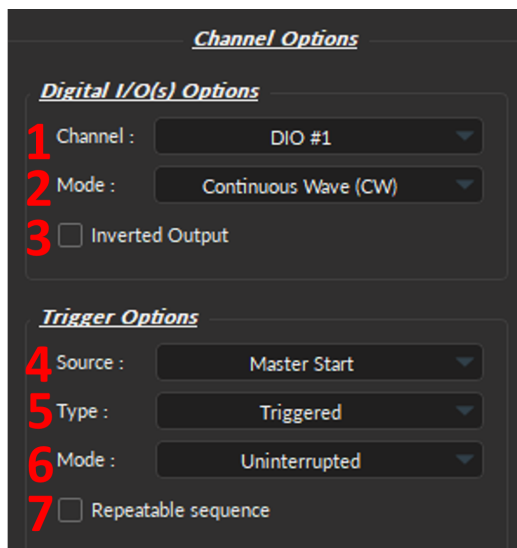
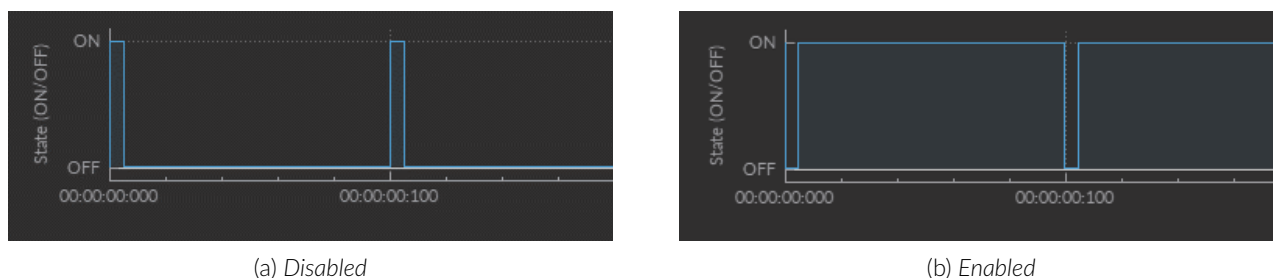

Figure 14.18: Channel(s) configuration window, Digital I/O Channel Options
Figure 14.20: *Inverted Output*
1. The **Channel** (Fig 14.18, 1) identifies the channels available to create a Digital I/O. The channel can be changed by selecting a new one from the drop-down list. Each numbered channel on the physical BFPD corresponds to the same number of the digital channel within the software.
2. The **Mode** (Fig 14.18, 2) identifies the type of signal sent (for output channels) or the way the signal is measured (for input channels). Three modes are available:
3. The **Inverted Output** checkbox (Fig 14.18, 3), when enabled, will convert every 0 to 1 and 1 to 0, such as in Fig. 14.20.
4. The **Source** trigger option (Fig 14.18, 4) specifies the element that will set off the digital output. Two options are available:
5. The **Type** (Fig 14.18, 5) defines how the trigger activates a sequence. This includes input sequences, which can be triggered/gated by an outside source.
6. The **Mode** (Fig 14.18, 6) defines how the sequence will run if a second TTL pulse is received before the sequence ends. This includes input sequences, which can be triggered/gated by an outside source. Four options are available:
7. The **Repeatable sequence** checkbox (Fig 14.18, 7), when enabled, will run the sequence when additional TTL pulses are received (Fig. 14.22).
The parameters contained in the **Sequence Options** depend on the **Channel Mode** (selected in **Channel Options**, Fig. 14.18), as following: